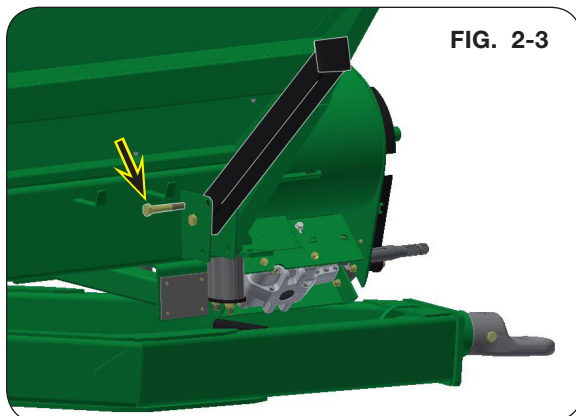

FIG. 2-3
2. Remove and save the 1"-8UNC x 6" cap-screw (9390-195) and 1"-8UNC elastic locknut (9398-026) (FIG. 2-3). Rotate the support stand weldment (276748B) down. Reinstall the 1"-8UNC x 6" capscrew (9390-195) and 1"-8UNC elastic locknut (9398-026) (FIG. 2-4). Repeat process on the opposite side of the grain cart.